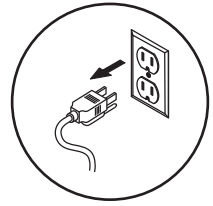

**Figure 47.** Removing a motor brush.
5. Use a dime to unscrew the brush caps. (See **Figure 47** to locate the brush caps.)